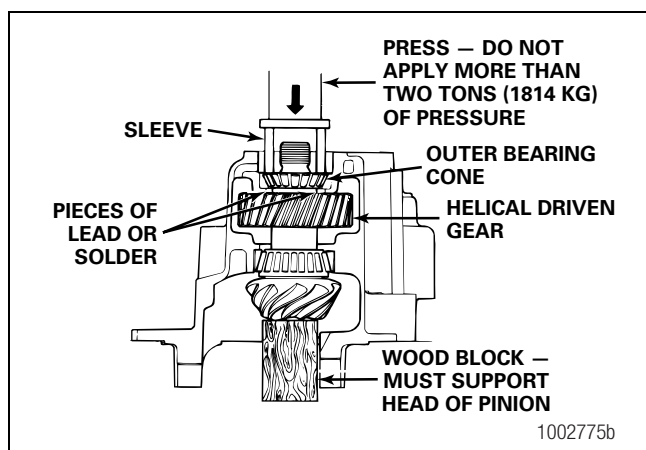

Figure 5.14
12. Remove the support from the flange of the carrier. Place a sleeve on top of the outer bearing cone. Use a press to apply two tons (1814 kg) of force to the outer bearing cone. The force of the press compresses the lead or solder pieces to the correct size. Do not apply more than two tons (1814 kg) of force. Figure 5.14.
18. Use a press and a sleeve to completely install the helical driven gear onto the drive pinion. Use a sleeve on the hub of the gear that fits inside the pinion bore in the carrier. Press the gear onto the drive pinion until the gear touches the spacer. Do not remove the wood block at this time. Figure 5.14.